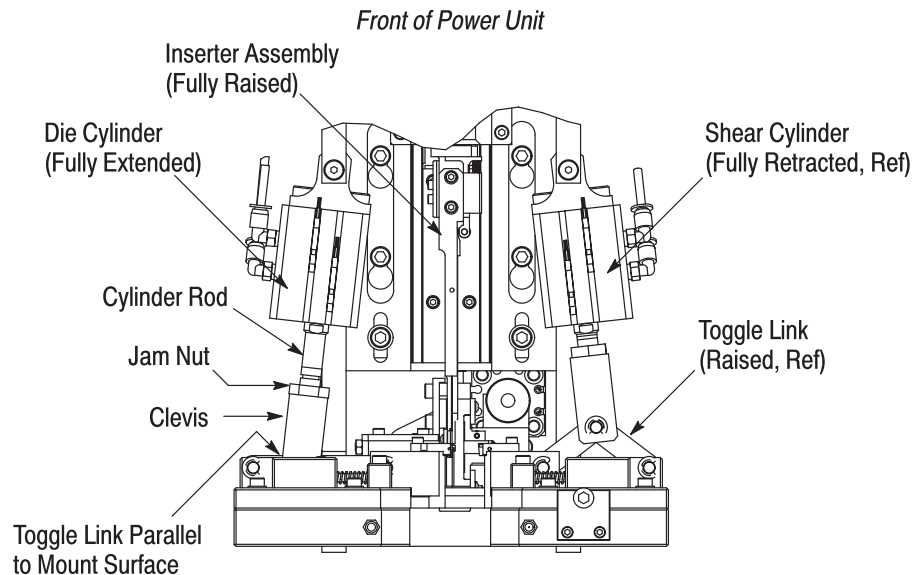

Figure 16
**5.5. Die Cylinder Clevis Adjustment** (See Figure 16)
**5.6. Shear Cylinder Clevis Adjustment** (See Figure 16)